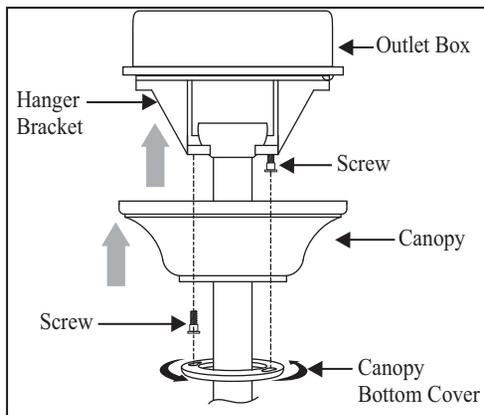

Figure 14
2. Slide the canopy up to hanger bracket and place the key hole on the canopy over the screw on the hanger bracket, turn canopy until it locks in place at the narrow section of the key holes. (Fig. 14)
3. Align the circular hole on canopy with the remaining hole on the hanger bracket, secure by tightening the two set screws. **Note:** Adjust the canopy screws as necessary until the canopy and canopy cover are snug. (Fig. 14)